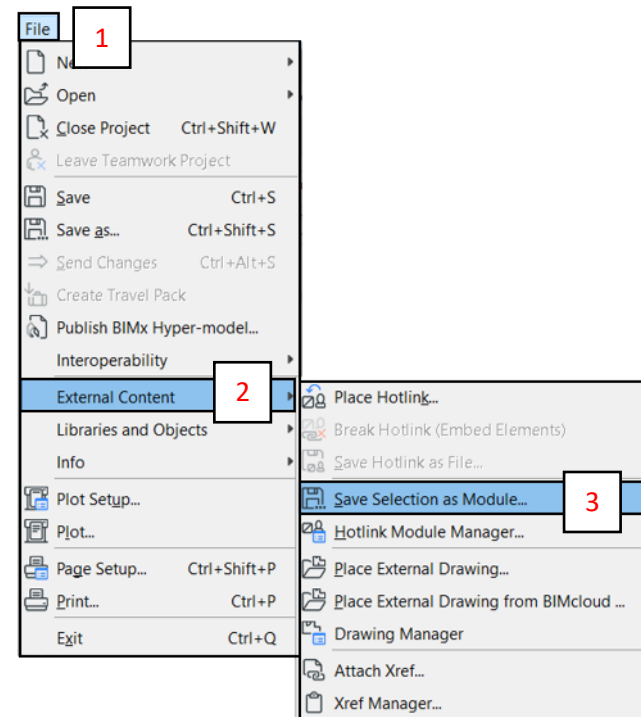

Fig. 4
- B. Ir a **File** (1) > **External Content** (2) > **Save Selection as a Module** (3). (Fig. 4)